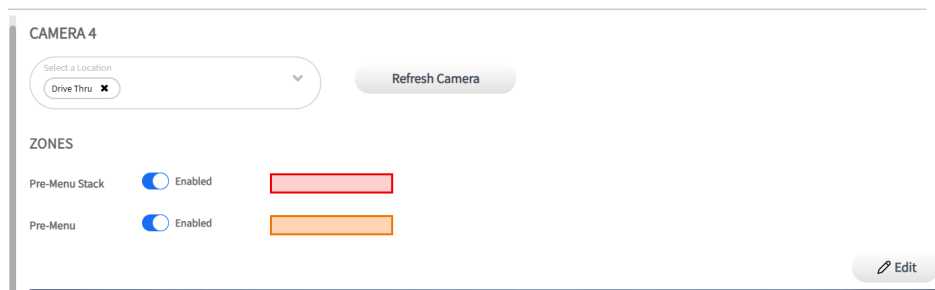

Fig. 5.9
12. If Drive-Thru is selected from the Location drop-down list, two zones appear: the Pre-Menu Stack and Pre-Menu zone. Toggle both switches to enable both zones, and two polygons (red and orange) will appear in your camera view like those shown in Fig. 5.9.